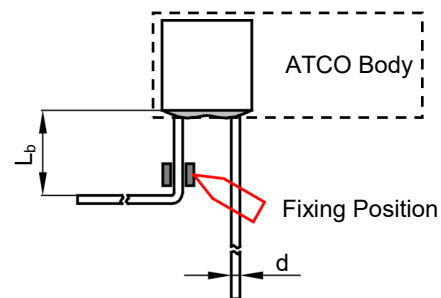

FIGURE P-2
2. When bending leads, please use pincher or similar tools to fix the product as shown in Fig.P-2, to avoid damaging the product.